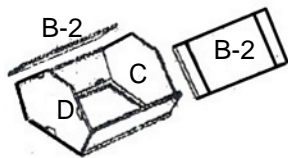
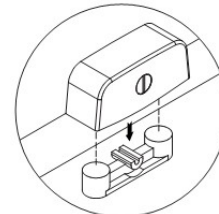

Figure 5
Figure 6
4. Installing the Rear Side Panels B-2 (Figure 5) Position the rear side panels B-2 so that the panel connectors align to the top panel (D), bottom panel (C), and front side panel (B). Gently work the panels into position. Make sure that it fits well and lock the cam lock connectors as (Figure 6).